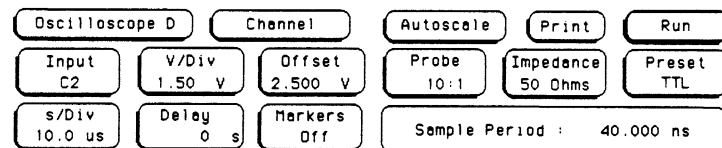

Figure 4-12. Channel Screen
- m. From **Channel** screen shown in figure 4-12, touch the following fields in the numbered sequence below: